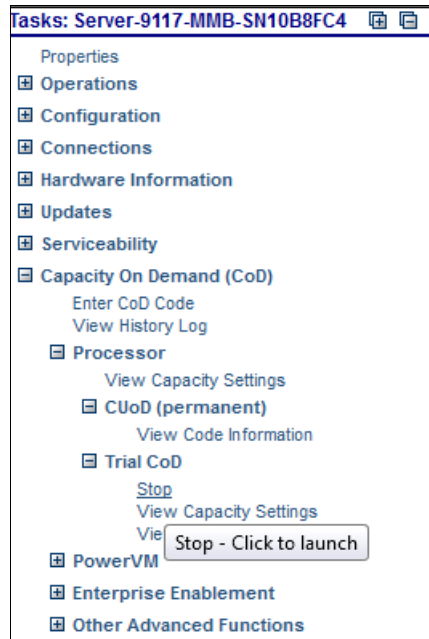

Figure 4-44 Stopping Trial CoD panel
3. Click **Stop** (as shown in Figure 4-44) to return resources to the pool.